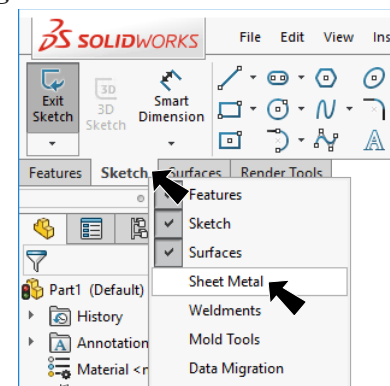

Fig. 4
Step 1. **Right click Sketch**  on the Command Manager toolbar and select **Sheet Metal**, **Fig. 4**.